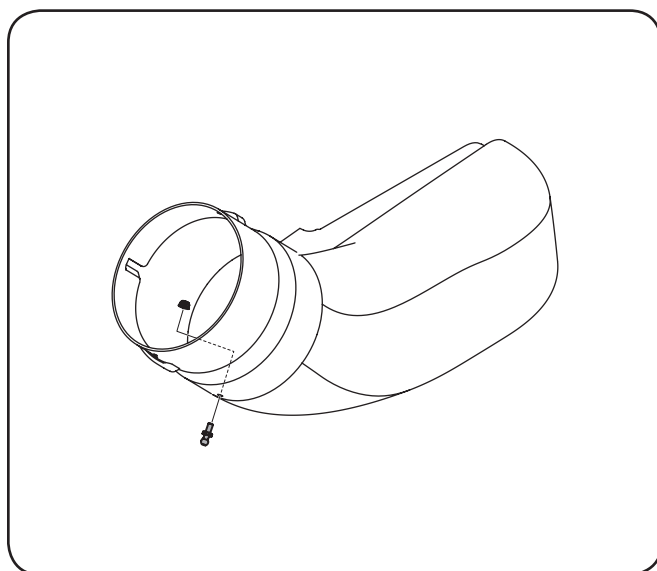

Figure 4-18
1. Locate the chute elbow and install the grass-catcher pin (911-04069) from hardware pack 689-00329 to the chute elbow in the hole provided as shown in Figure 4-18. Secure the grass-catcher pin with a flange lock nut (912-3027) from the same hardware pack.